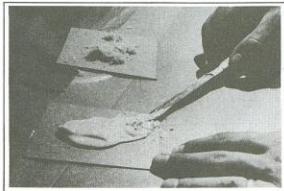

Figure 2-75. Mixing Gel Coat Glass Fibers
3. A small amount of gel coat, the same color as the finish should be placed in a small can lid or on a piece of cardboard. Use just enough to fill the damaged area. If damage has penetrated through to fiberglass material, an equal amount of fibers, which can be taken from glass mat and shredded into small fibers, should be mixed with the gel coat - using a putty knife or flat stick. Add three drops of catalyst per teaspoon of gel coat using any eye dropper. Be sure to mix the catalyst thoroughly for maximum working time. Maximum working time (pot life) will be about 15 to 20 minutes in which time it begins to "gel." See Figure 2-75.